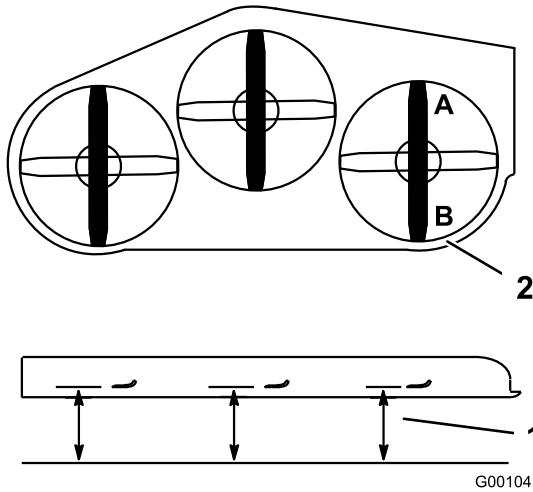
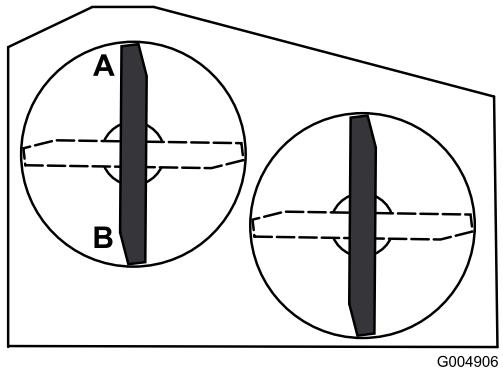

Figure 66
Figure 67
2. Position one blade front-to-rear. Measure at **A** and **B** locations from a level surface to the cutting edge of the blade tips (Figure 66 or Figure 67). For 36 inch mower decks use Figure 67.
4. Position the blades front-to-rear. Measure at **C** and **D** locations (Figure 66) from a level surface to the cutting edge of the blades.